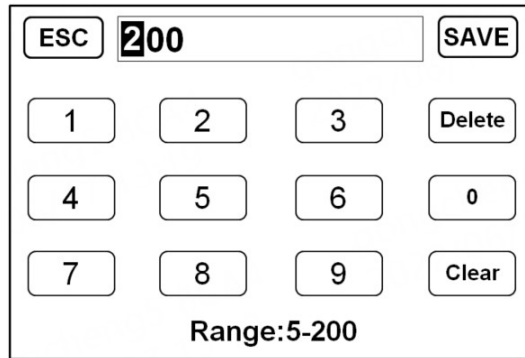

Figure 32
1) Under the main interface of the machine, press and hold the "BATCH" key on the left side of the frame for 3 seconds until the display screen jumps to the preset number shortcut setting interface, as shown in Figure 32 below.